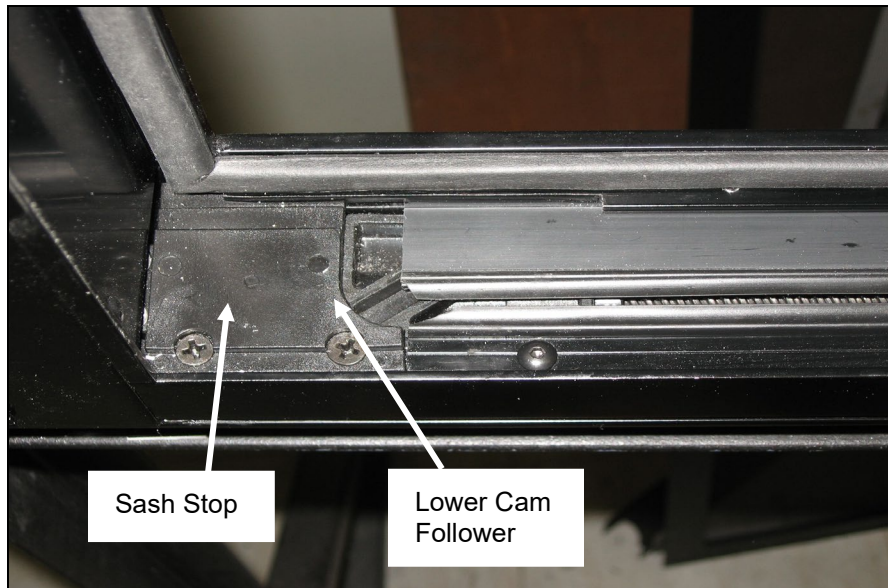

FIGURE 110: PROPER ALIGNMENT
2. Position the left hand lower corner of the sash over the front cam follower block (Figure 110)